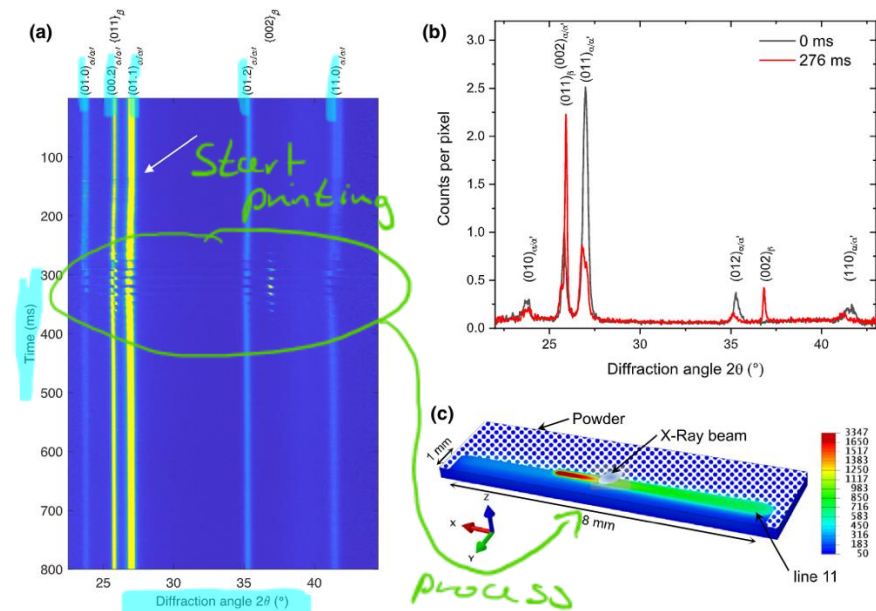

FIGURE 3
Figure 3. Integrated diffraction intensities of sulfur peaks for a Li-S cell cycled at C/8 and with a cathode prepared as a sulfur/Super P composite: (a) electrochemical plot showing the first cycle of the Li-S cell; (b and c) integrated intensity plots for (222), (026), and (206) Bragg peaks, which show the disappearance of crystalline sulfur by the end of the first discharge plateau and its reappearance by the end of the charge cycle. The blue arrows indicate the specific capacity regions over which the integrated intensities are plotted. The dashed lines emphasize where sulfur peaks disappear and reappear. The total discharge capacity is 755 mA h g⁻¹, and the total charge capacity is 1400 mA h g⁻¹. Error bars on the integrated intensities were determined using Levenberg-Marquardt minimization.